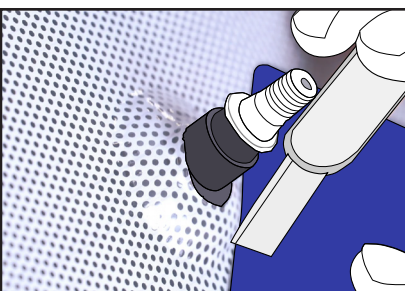

Figure 23
- › Move the squeegee and the cutter at the same time, along the rubber protection of the wiper shaft, to cut the film. (FIG. 23)